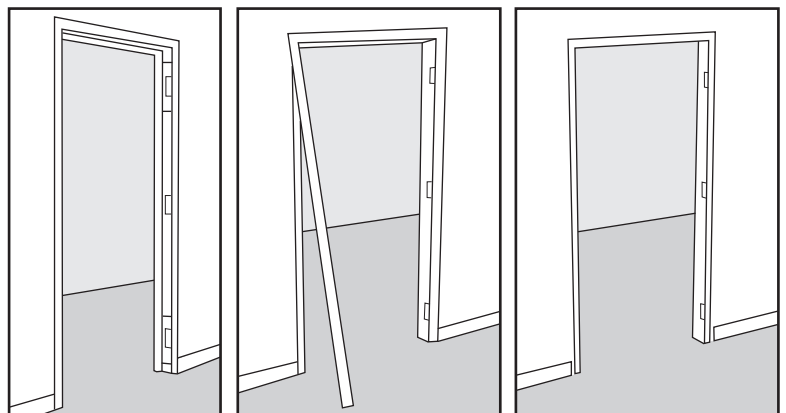

FIG. JS-01
1. Carefully remove the interior door trim moulding as this material can and should be re-installed upon installation completion (FIG. JS-01).